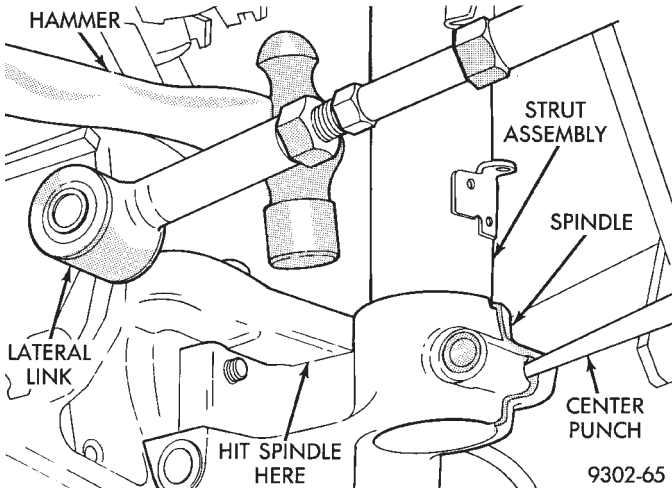

Fig. 12 Removing Spindle From Strut Assembly
(10) Using a hammer, tap on top surface of spindle driving it down and off the end of the strut assembly (Fig. 12).